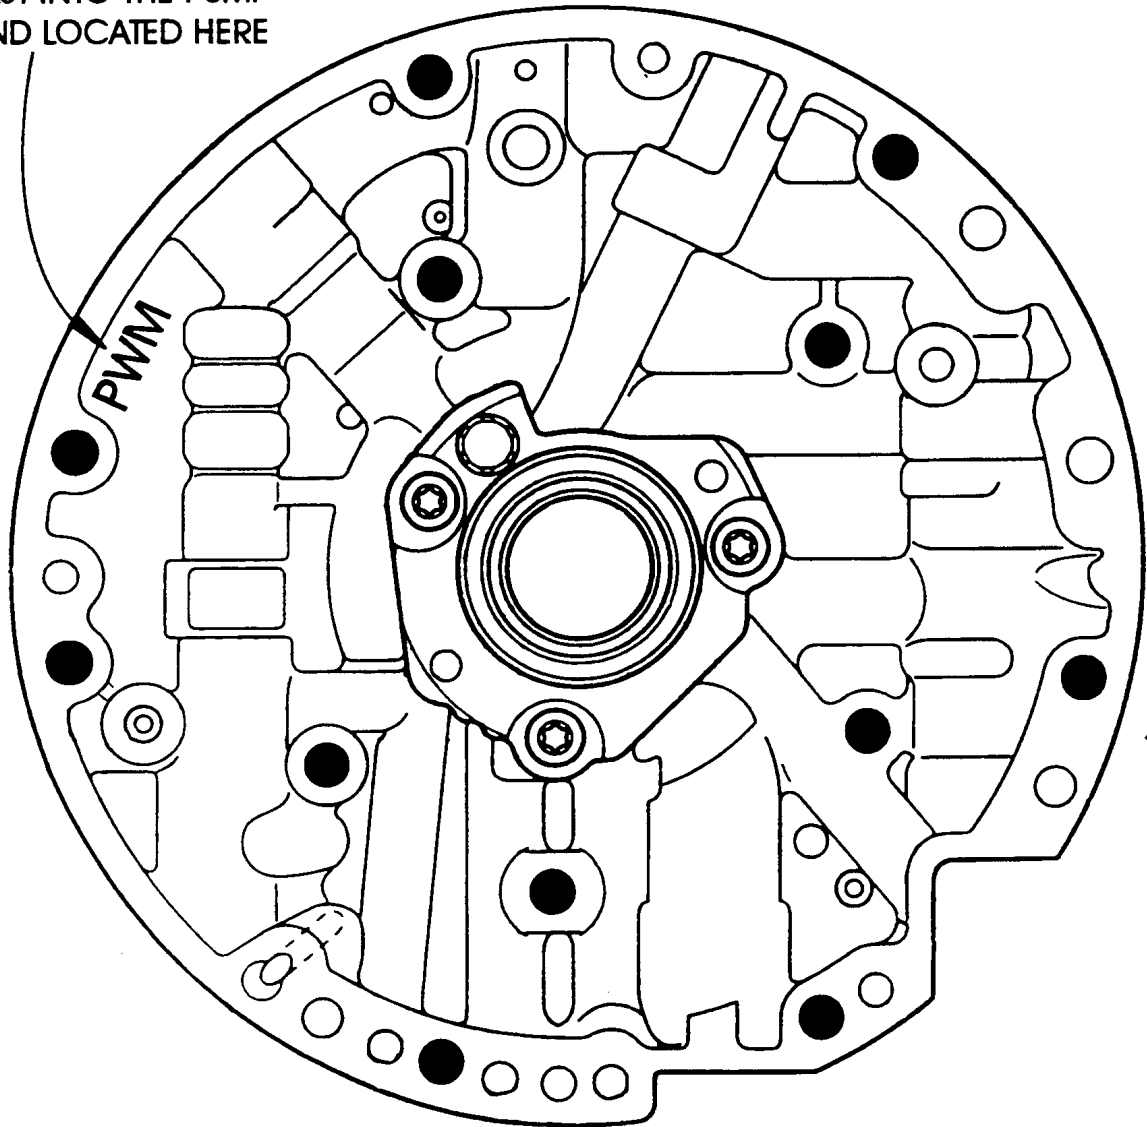

Figure 6
(4) OIL PUMP COVER (STATOR) - There were changes in the worm track configuration on the new design pump cover to accommodate the added TCC PWM solenoid. The pump cover can be easily identified with "PWM" cast into the pump cover, in the location shown in Figure 6. Refer to Figure 5 for the differences in the worm track area, which we have shaded for easy reference.
(5) TURBINE SHAFT BALL CAPSULE - Change in orifice sizes to accommodate the added TCC PWM solenoid, and calibrate converter release oil to the new TCC PWM solenoid.